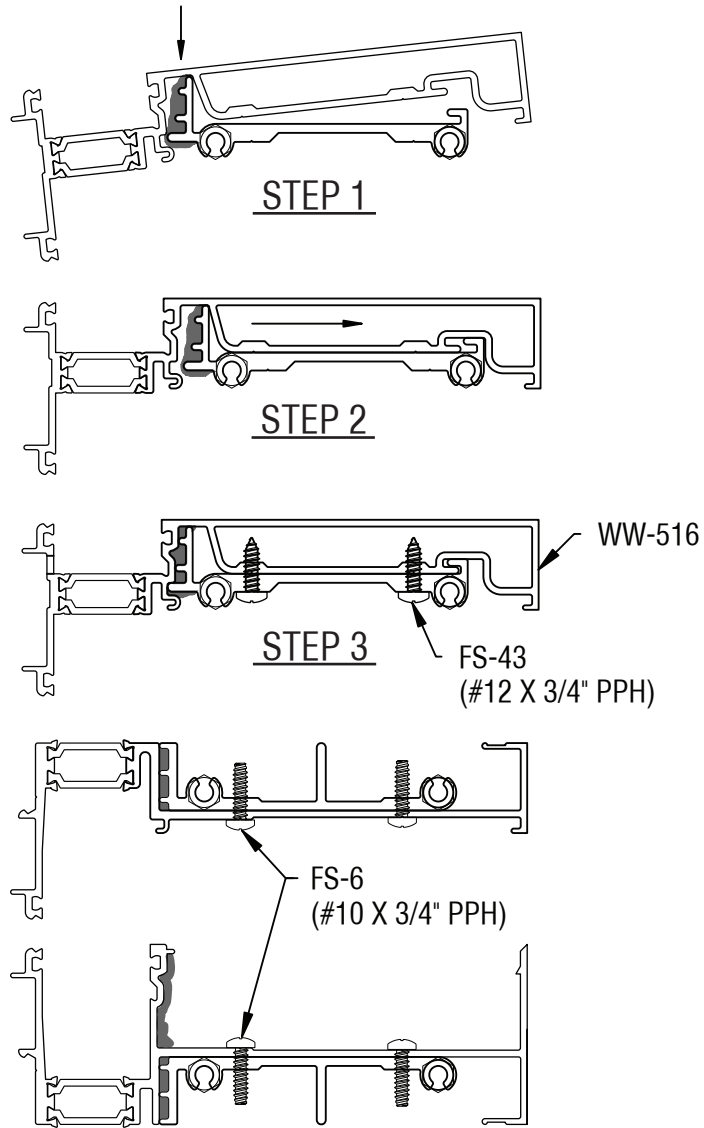
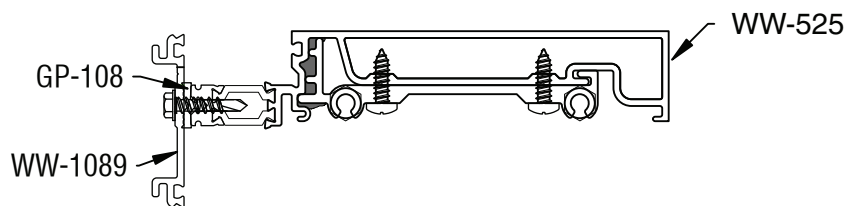
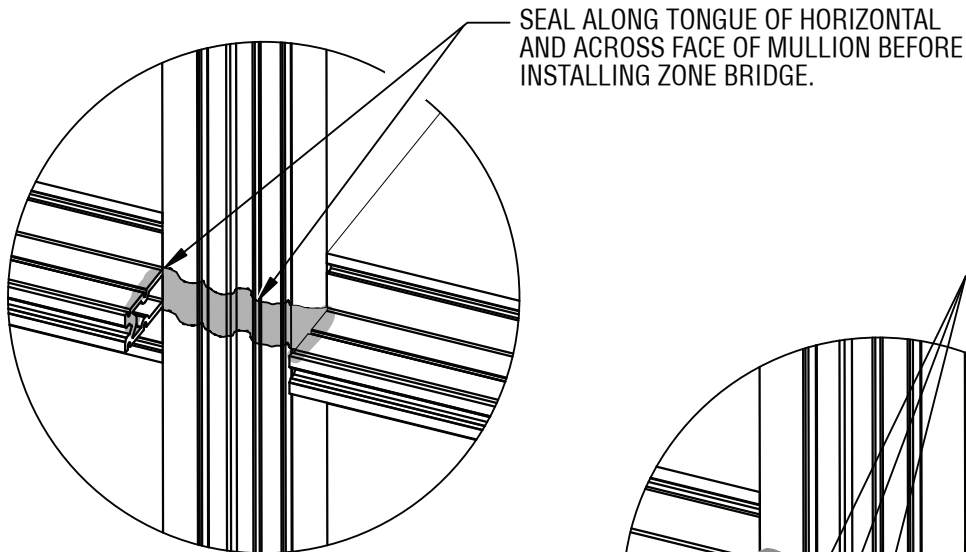

Figure 12
Figure 13
Figure 37
- 2.2 Seal around shear blocks prior to installing each horizontal mullion. **SEE FIGURE 9 & 10.** Install horizontal mullions as shown in **FIGURE 12, page 15.** An alternate horizontal is available to allow exterior glazing of system. **SEE FIGURE 13, page 15.** When installing alternate horizontal, attach pressure plate using FS-322 (#12 x 1" HWH Drill Flex) @ 9" o.c. and torque to 60 in/lbs. Secure horizontals to shear block with two (2) FS-43 (#12 x 3/4" PPH) at each end of horizontal and to head and sill using (2) FS-55 (#10 x 3/4" pph).
2.4 Wipe excess sealant from exposed areas. Tool sealant into the joint between the horizontal and vertical at the glazing pocket. At the sill, apply a bead of sealant behind the glass pocket. **SEE FIGURE 12, page 15.** Avoid a buildup of sealant on the gasket surfaces or in the gasket reglets. Reference **figure 14, page 16** for additional sealant instructions. **TIP: Use a short piece of glazing gasket to clean out excess sealant in glazing reglets.**
- 3.16 It may be necessary on lites located adjacent to building floors and mid-anchors to glaze from exterior. A horizontal with removable pressure plate must be used at top of lite to allow for exterior glazing. See FIGURE 13, page 15. If exterior glazing SSG system, WW-300 bridges will be installed at each horizontal. **See FIGURES 37 & 38, page 34.**
- E.2.4 Install WW-300 horizontal bridge at vertical intersection where original bridge was removed. Seal bridge as shown in **Figures 37 & 38**.